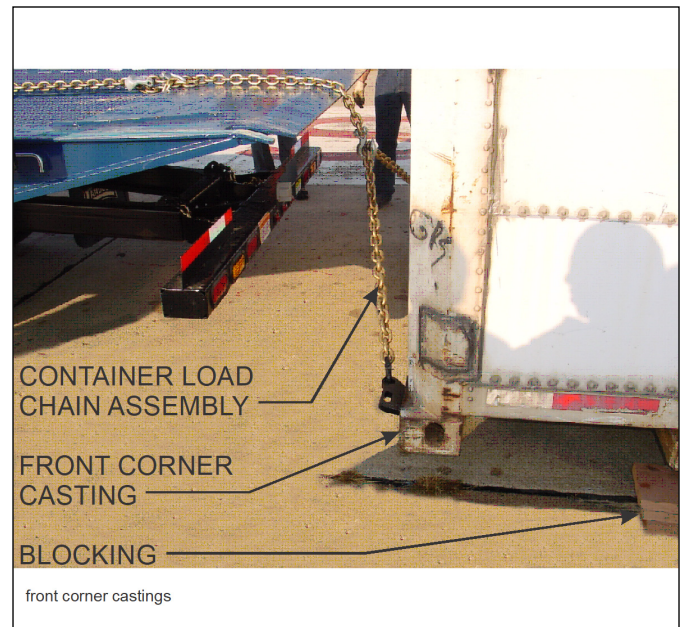

Figure 3-5: Front Corner Castings
14. Check the container to be loaded to see if the container front corner castings are an inch or so off the ground. If they are not, the container will have to be lifted first and blocks placed a few inches behind front of container to keep container an inch or so off the ground (**See Figure 3-5.**)